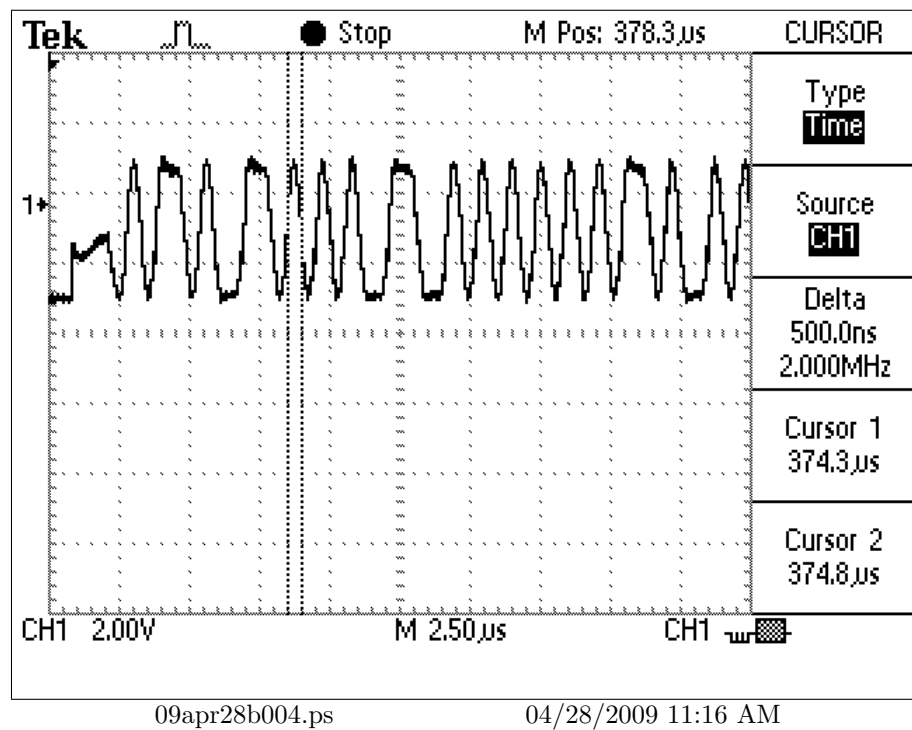

Figure 13: Duration of a “0” bit
- 7.3 It appears that “0”’s are $.5\mu\text{s}$ long. (Figure 13, page 16)